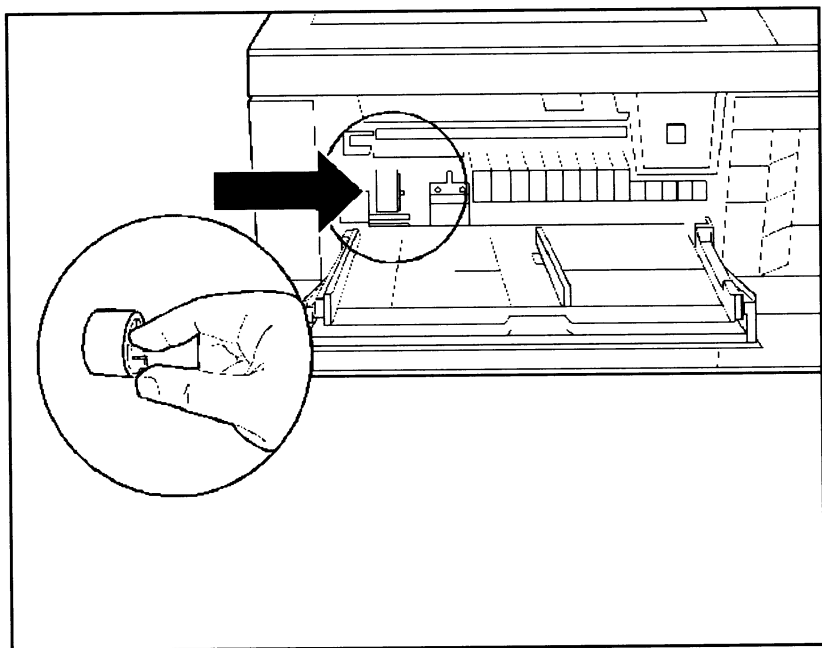
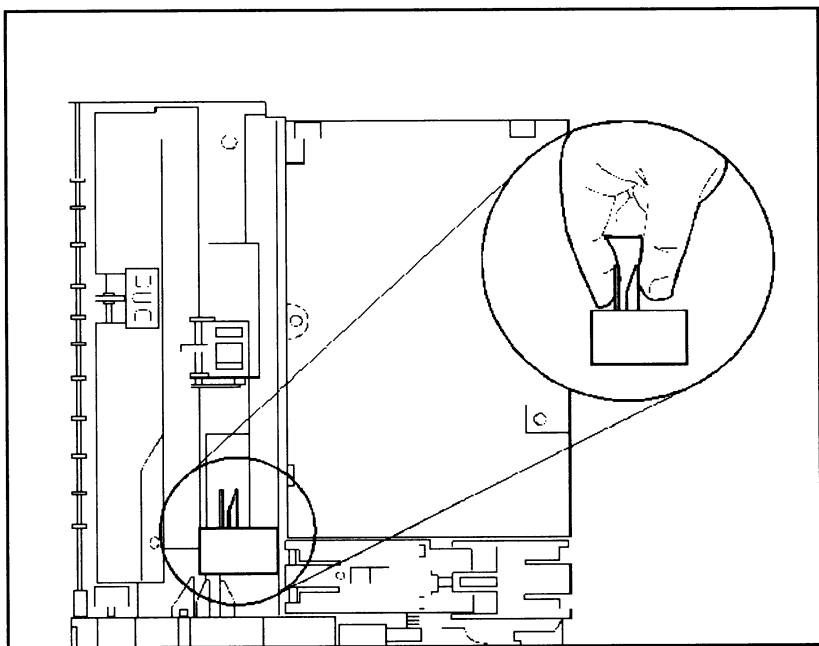
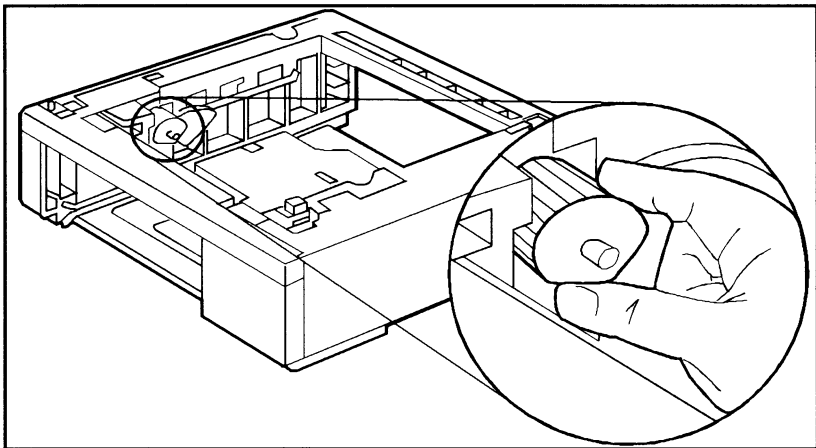

Figure 4-5 Removing the MP Tray (Tray 1) Pickup Roller
Figure 4-7 Removing the PC (Tray 2) Pickup Roller (printer is turned on its left side)
Figure 4-8 **Removing the Lower Cassette Pickup Roller**
Each paper source has a Paper Pickup Roller that should be replaced when paper no longer feeds reliably. The MP Tray (Tray 1) Paper Pickup Roller is shown in Figure 4-5. The PC tray (Tray 2) Pickup Roller is shown in Figure 4-7, the LC (Tray 3) Pickup Roller is shown in Figure 4-8.
- 3 Remove the roller by pinching the plastic retaining clip at the side of the roller and sliding it off its shaft (see Figure 4-5). (You may find it easiest to pinch the clip with your *right* hand and use your *left* index finger to slide the roller to the right.)
The PC Pickup Roller is underneath the printer (see Figure 4-7). To remove the Pickup Roller:
- 2** Press the retainers that hold the roller in place (see Figure 4-8).